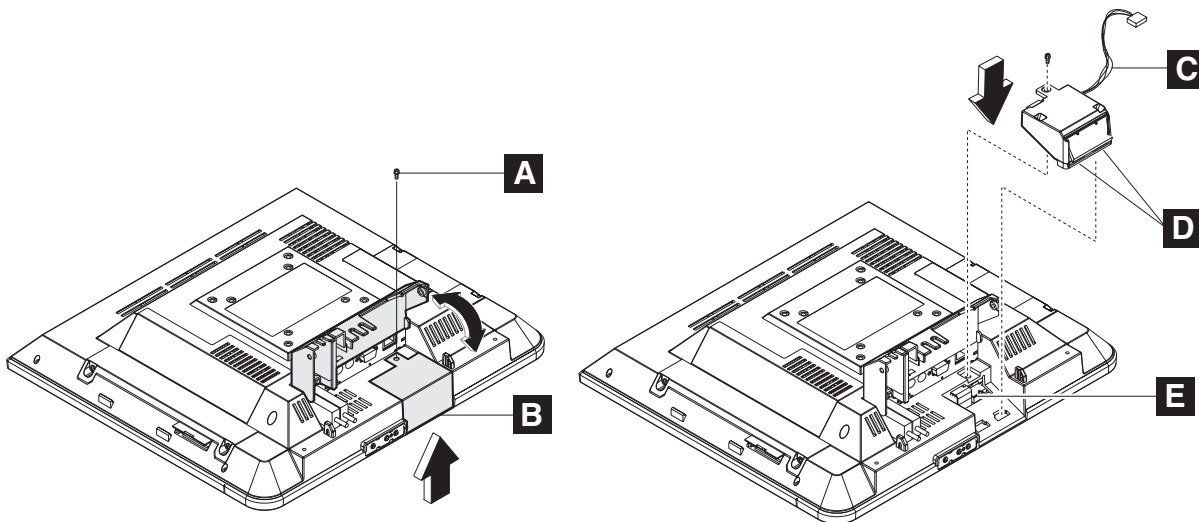

Figure 5. Installing the scanner
1. As shown in Figure 5, place the IBM 4836/4838 face down on a sturdy surface.